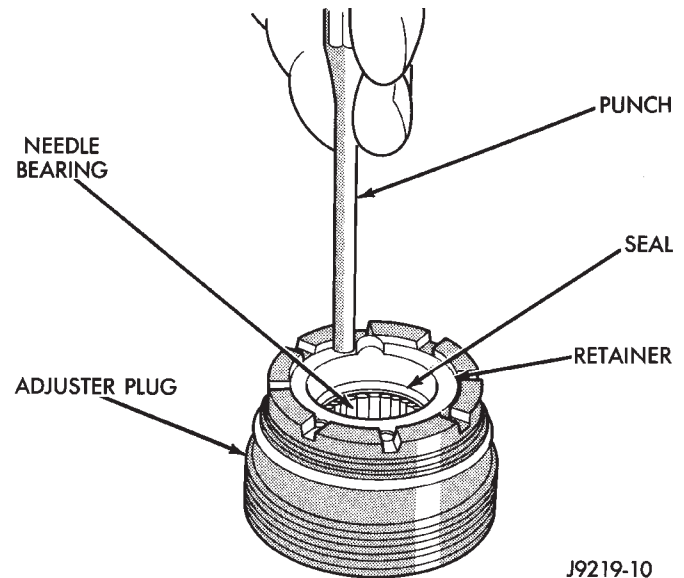

Fig. 22 Install Retainer
(1) Install needle bearing into adjuster plug with an appropriate tool.
(2) Install lip seal and dust seal into adjuster plug with an appropriate tool.
(3) Install retainer snap ring.
(4) Install O-ring seal to adjuster plug.
(5) Install large bearing race, thrust bearing, small bearing race and bearing spacer to adjuster plug.
(6) Install thrust washer bearing retainer to adjuster plug (Fig. 22).